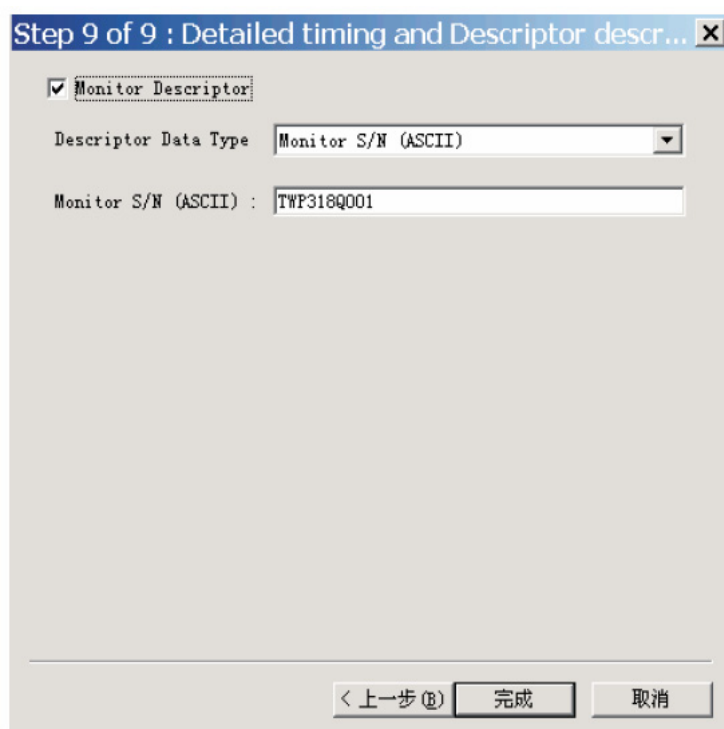

Fig. 22
8. Click Next , bring up Fig. 22.